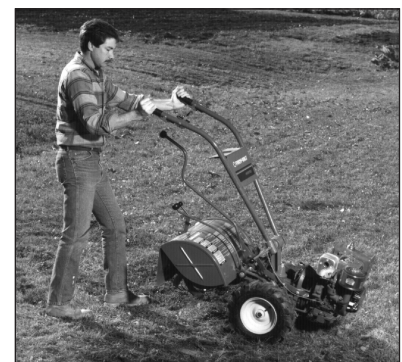

Figure 4-5: Turning the tiller.
Turning the tiller is easy and just requires practice. First find the balance point between the engine and the tines by lifting up the handlebars (Figure 4-5). Once you find the balance point, then let the powered wheels do the turning as you push sideways on the handlebars in the direction of the turn. Practice the turning maneuver described here in a large open area. Once comfortable turning the tiller, you can then take it to the garden area.
3. Resume forward operation, and lift handlebars until tines are off the ground (Figure 4-5). Find the balance point between the engine and the tines. Then push the handlebars in the direction of the turn. *Be very careful to keep feet and legs away from the tines (which should be disengaged).* Let the powered wheels do the hard work. The inside wheel will pivot in place while the outside wheel drives the